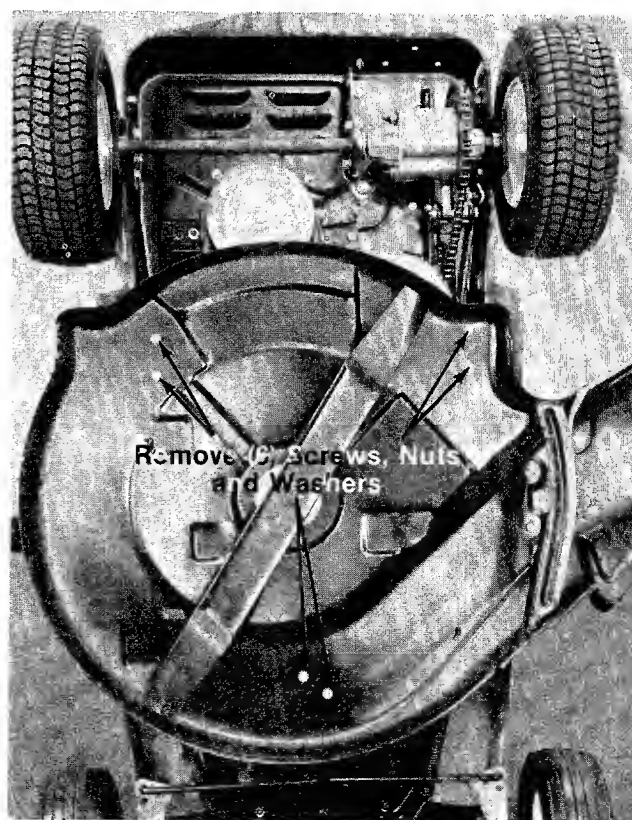

FIGURE 23. DECK REMOVAL
Step 3. Remove six hex screws, nuts and lock washers holding the deck. See figure 23.